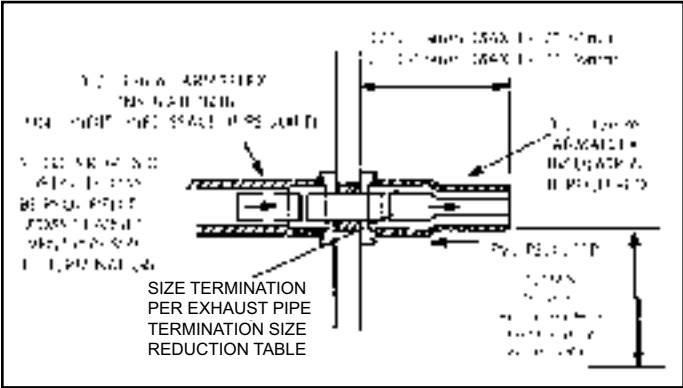

Figure 39. Non-Direct Vent Field Supplied Wall Termination
- 2. On field supplied terminations for side wall exit, exhaust piping may extend a maximum of 12 inches (305 mm) for 2" PVC and 20" (508 mm) for 3" (76 mm) PVC beyond the outside wall. See Figure 39.